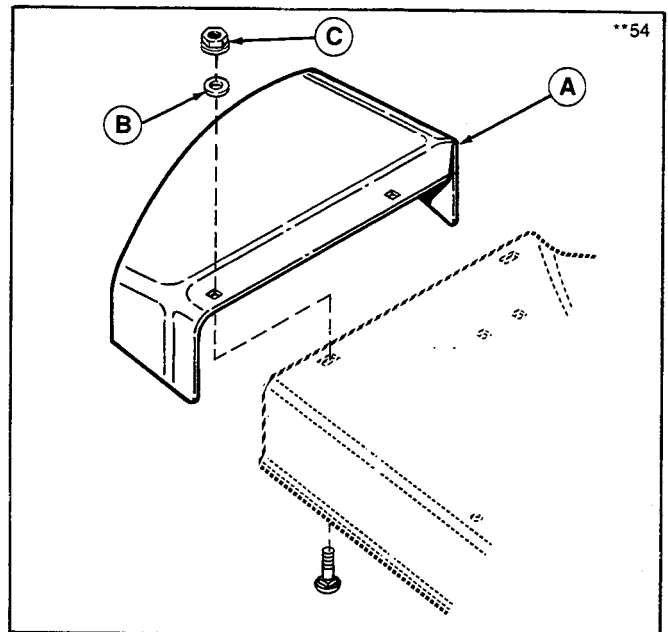

Figure 1.
2. Remove the discharge deflector (A, figure 1). Retain the flat washer (B) and flange nut (C) to install adapter (step 9).